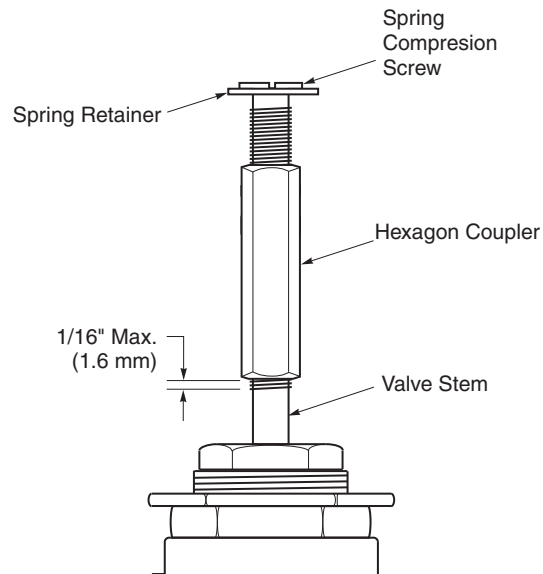

Figure-1 Installation of Hexagon Coupler and Spring Compression Screw.
1. Thread the hexagon coupler onto the valve stem all the way to the bottom of the stem thread, finger tight (Figure-1).